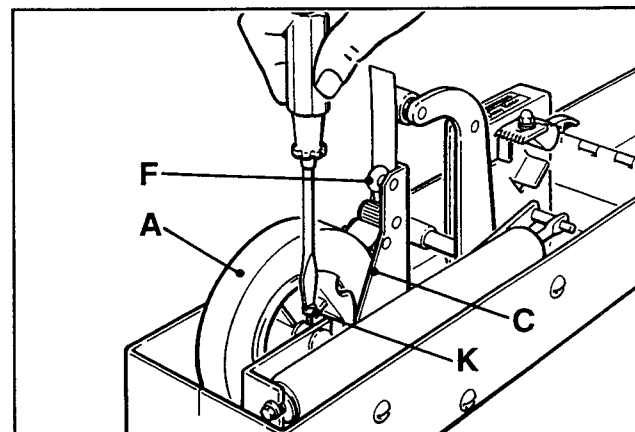

Figure 4
**Tape Web Alignment –** Refer to Figure 4. Center the tape on the crease wheel (F) by loosening the screw (K) and sliding the tape roll (A) in the desired direction. Allow for clearance between the edge of the tape roll and the side of the stripper arm assembly (C). Retighten screw (K). This adjustment must be made for each different width tape used.